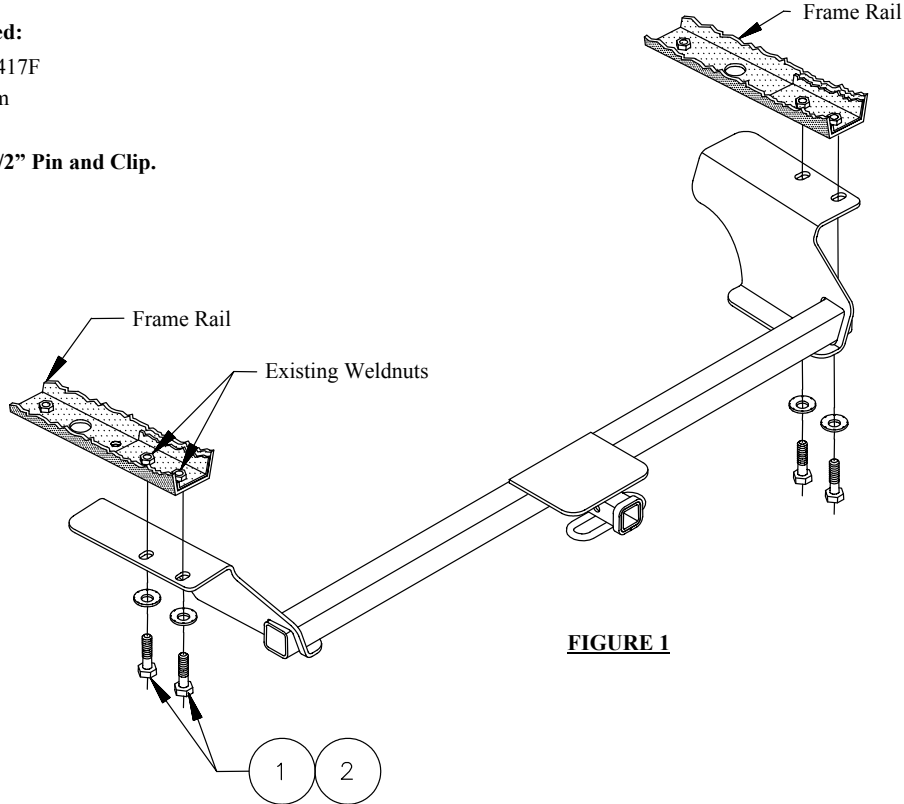

FIGURE 1
①	Qty. (4)	M12 X 1.25 X 35mm CL8.8 Bolt	②	Qty. (4)	Conical Toothed Washer
3. Install fasteners as shown in Figure 1.